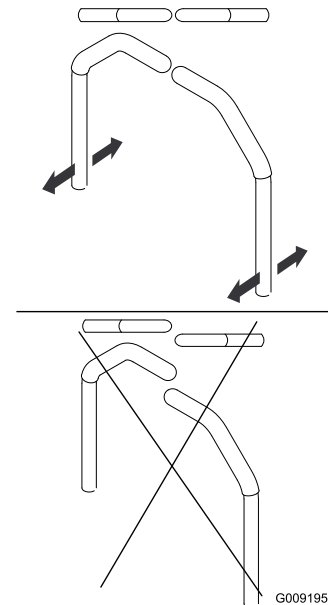

Figure 106
4. Align the levers in the front-to-rear position by bringing the levers together to the NEUTRAL position, and slide them until they are aligned, then tighten the bolts (Figure 106).